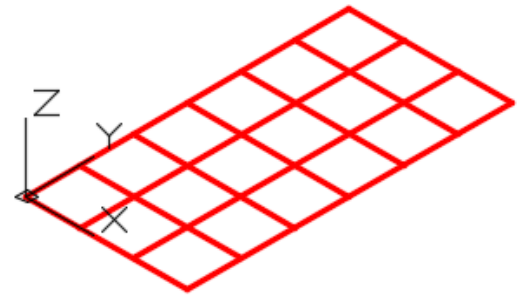

Figure Step 1A
Step 1 On layer: Model, draw the grid shown below. The grid lines are an equal distance apart. (Figure Step 1A and 1B)